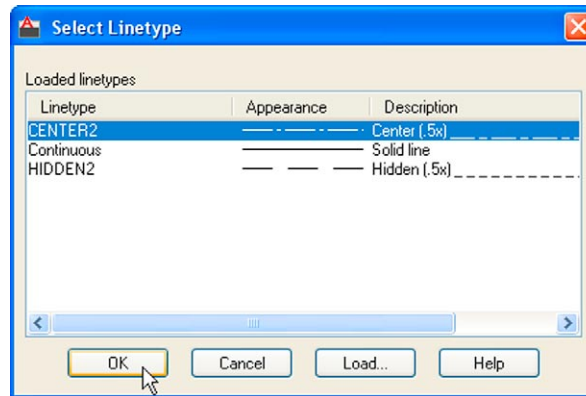

Fig. 4.18 The Select Linetype dialog
5. Click on the linetype **Continuous** against the layer name **Centre**. The **Select Linetype** dialog appears (Fig. 4.18). Click its **Load...** button and from the **Load or Reload Linetypes** dialog double-click **CENTER2**. The dialog disappears and the name appears in the **Select Linetype** dialog. Click the **OK** button and the linetype **CENTER2** appears against the layer **Center**.